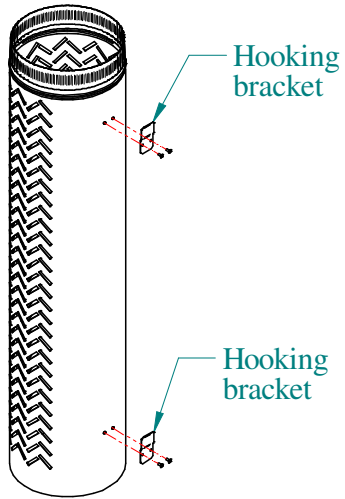

Figure: 4
4. Complete Standard installation of main flue pipe & assembled decromesh (with hooking brackets) as shown in Figure: 4 & 5.